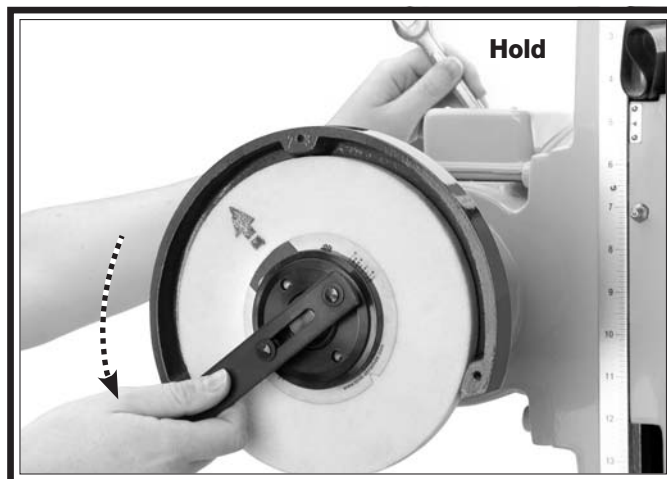

Figure 15. Removing spanner nut.
5. Using the wrenches, loosen the spanner nut in the direction shown in **Figure 15**.